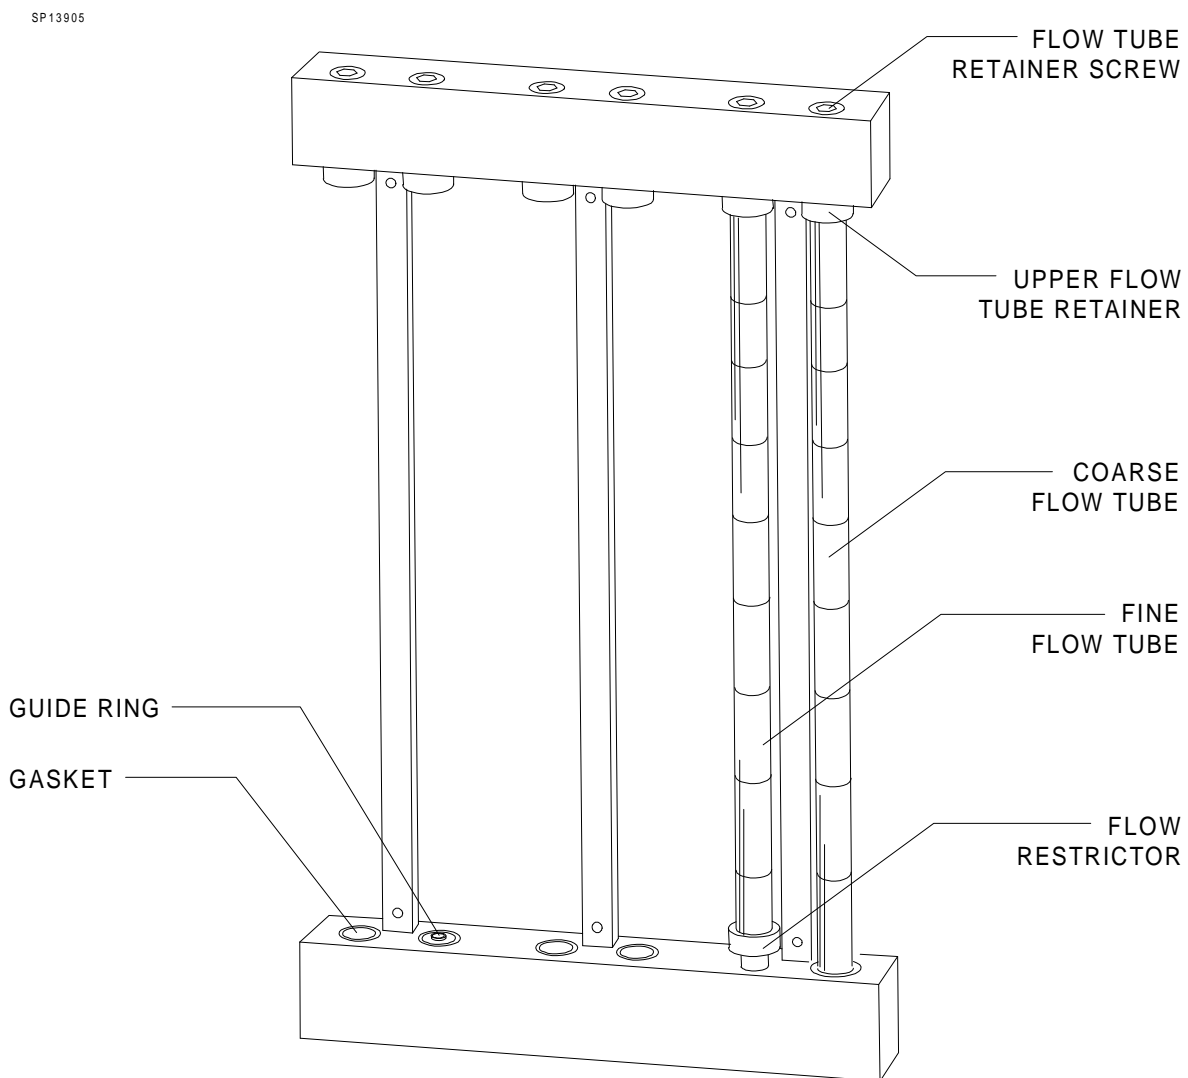

Figure 5: FLOW TUBE INSTALLATION (TYP)
13. Carefully remove all flowtubes from the flowmeter housing (ref. Figure 5).
40. Ensure that the markings on each flow tube are facing forward, and turn the upper retainer screw (see Figure 5) until the flow tube is held firmly in place.